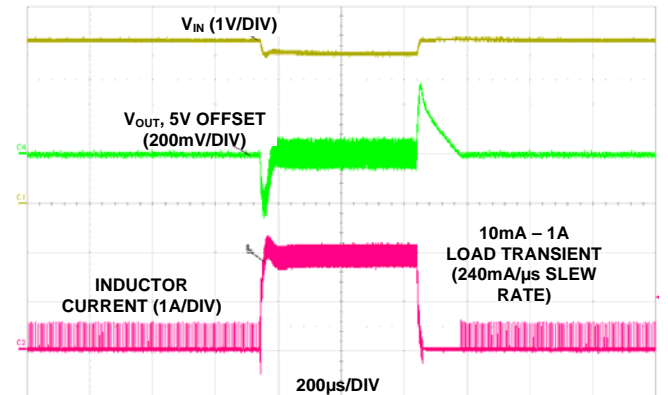

FIGURE 3. ISL91117 LOAD TRANSIENT AT $V_{IN} = 3V$ AND $V_{OUT} = 5V$
12. Set the electronic load to constant current dynamic mode with 10mA to 1A pulse, $t_{ON}=500\mu s$. Check the load transient response as shown in Figure 3.